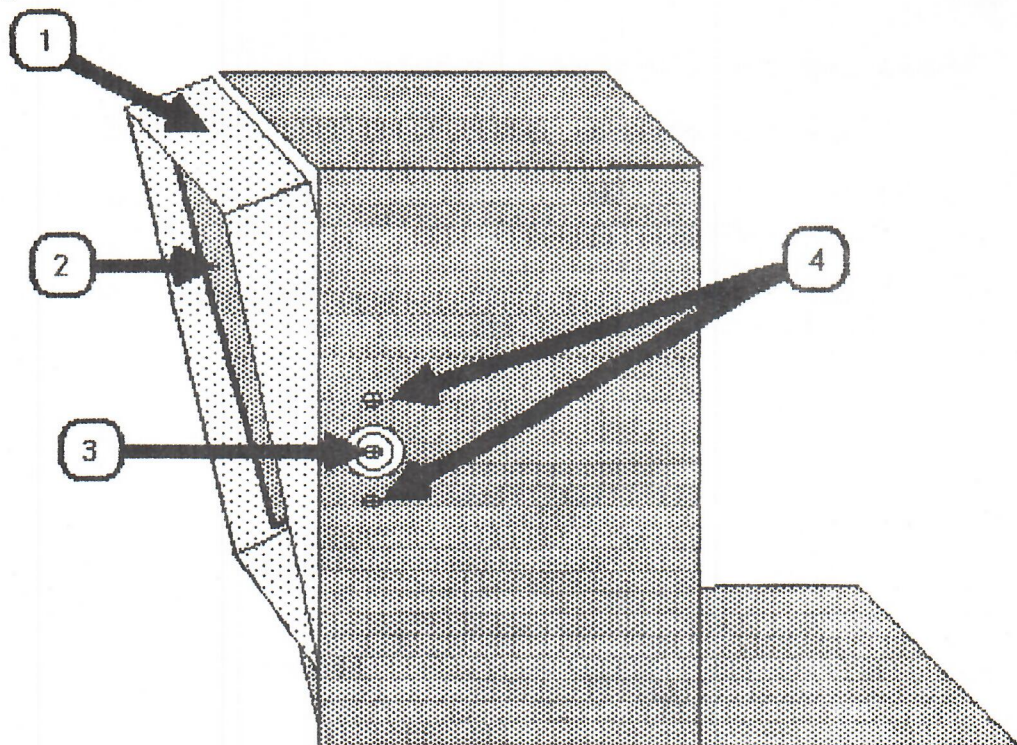

FIGURE 18
NOTE: The mask is shown in Figure 18, #1. The metal parts that come off when removing the mask are not considered part of the mask.
- a) Support the CRT bracket (Figure 18, #2) while you loosen the axle screw (Figure 18, #3) until it clears the bracket. Set the bracket aside.
- b) Completely remove the axle screw (Figure 18, #3).
- c) Remove the two screws shown in Figure 18, #4.
- a) Replace the two screws shown in Figure 18, #4.
- b) Place the CRT bracket (Figure 18, #2) inside the mask with the screw holes adjacent to the screw holes located at the upper and lower corners of the mask.
- c) Replace the axle screw (Figure 18, #3).